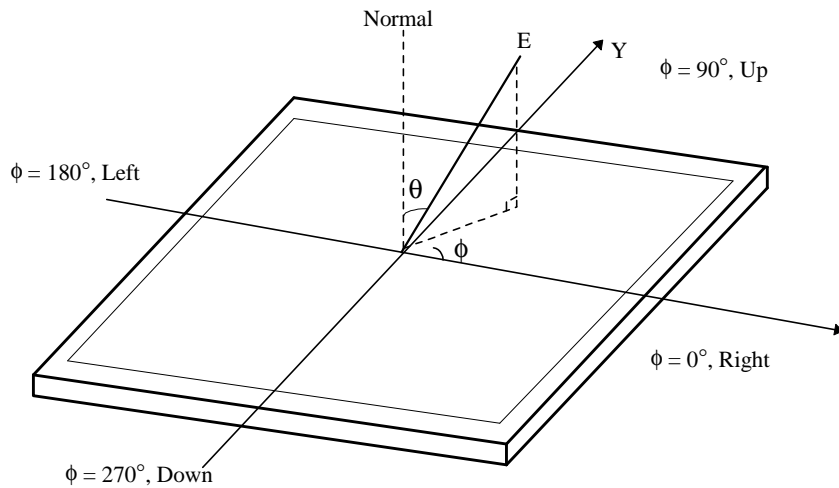

FIG. 4 Viewing angle
5. Color shift is the angle at which the average color difference for all Macbeth is lower than 0.02. For more information see FIG 3 and FIG 4. (By EZ Contrast)
6. Viewing angle is the angle at which the contrast ratio is greater than 10. The angles are determined for the horizontal or x axis and the vertical or y axis with respect to the z axis which is normal to the LCD surface. For more information see FIG 4. (By PR880)